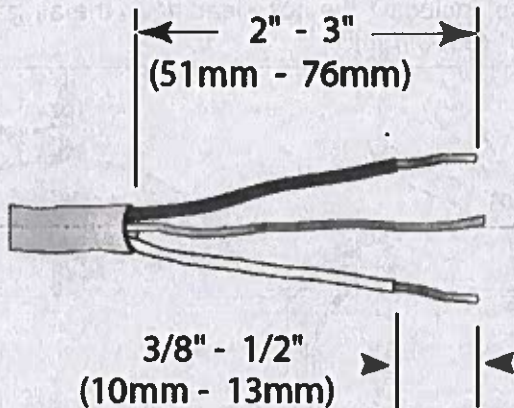

Figure 8
2. Remove 2" to 3" (51 - 76 mm) of the outer casing of the household or field supply wiring as shown in Figure 8. Remove 3/8" to 1/2" (10 - 13 mm) of the insulation from each wire as shown in Figure 8.